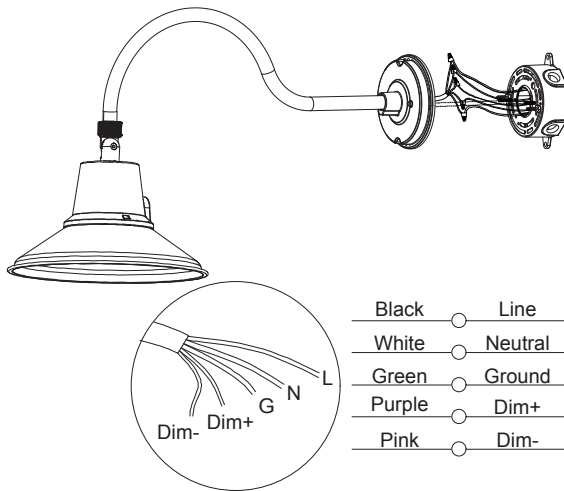

Fig 5
5. Connect the corresponding terminals according to the wiring diagram, connect L, N, and ground wires correctly. (Fig 5)